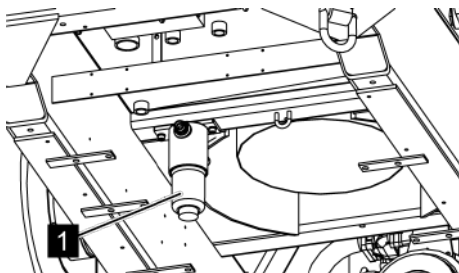

Fig. 167: Unscrewing the filter bowl
5. ➤ Carefully unscrew the filter bowl (Fig. 167/1).